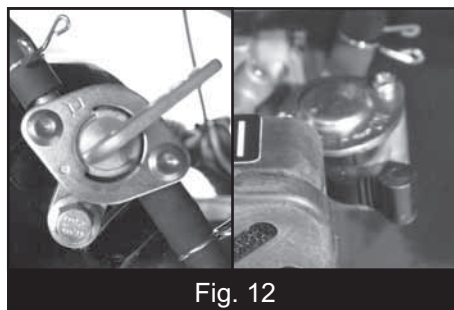

Fig. 12
3. When the generator engine has stopped and before storage, turn fuel valve lever 1 & 2 to the OFF position (Fig.12).